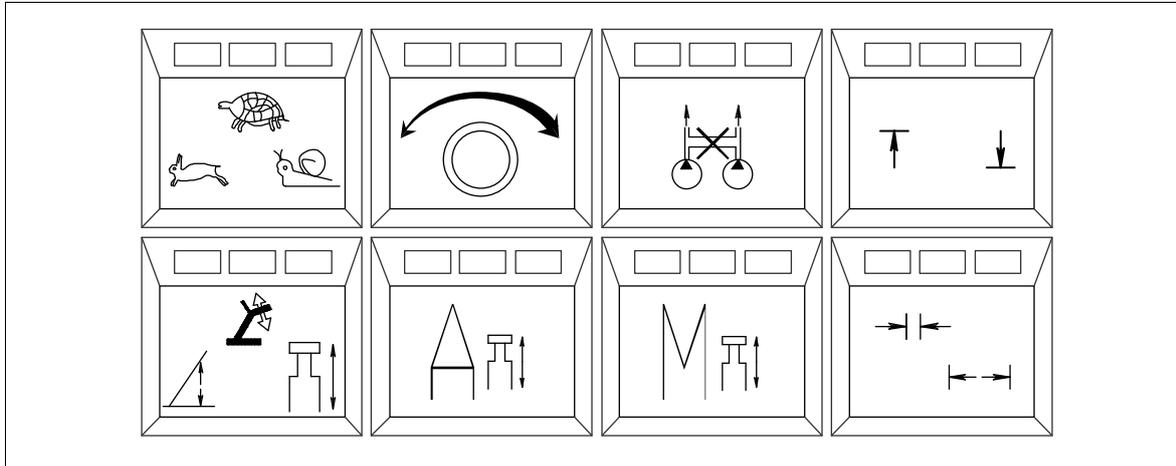

Figure 4-35 Automatic telescoping
- a) Refer to Figure 4-35. Make sure that the following prerequisites are met:
- 3) Switch “pre-selection of derrick / telescope” as shown in Figure 4-35 has been set to “Telescope”.
- 4) Activate switches “cylinder pin operation” and “boom pin operation” as shown in Figure 4-35 to open the cylinder pin and the boom pin..
- 5) Deactivate switches “automatic telescoping operation” and “manual telescoping operation” as shown in Figure 4-35.
- 6) Activate the switch “pre-selection of normal speed / low speed / extremely low speed” as shown in Figure 4-35 in normal speed.
Press the automatic telescoping switch on the control panel (refer to Figure 4-35) to “Auto” position, i.e. the middle light of the switch illuminates in red, boom section telescoping will be executed automatically according to the operator’s setting.
- d) Deactivate switches "automatic telescoping operation" and "manual telescoping operation" (Refer to Figure 4-35).